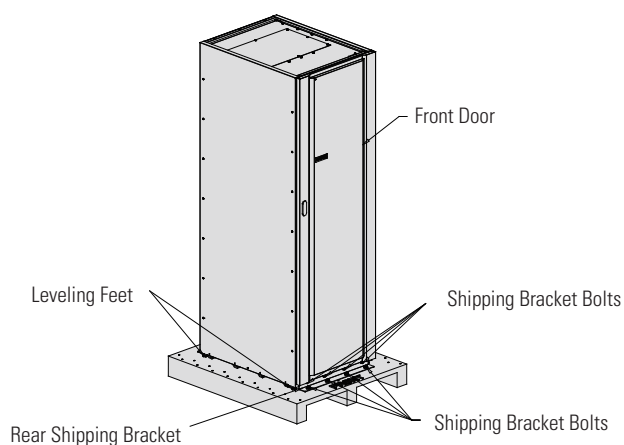
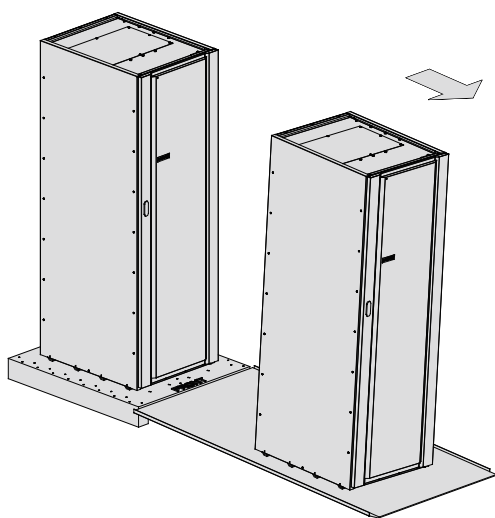

Figure 4-1. Removing the Front Shipping Bracket
Figure 4-3. Removing the Rear Shipping Bracket
2. Remove four bolts securing the front shipping bracket to the cabinet and four bolts securing the bracket to the pallet (see Figure 4-1). Remove the front shipping bracket. If installing the cabinet permanently, retain the shipping bracket and securing hardware for later use.
5. Remove four bolts securing the rear shipping bracket to the cabinet and four bolts securing the bracket to the pallet (see Figure 4-3). Remove the rear shipping bracket. If installing the cabinet permanently, retain the shipping bracket and securing hardware for later use.
11. Using the retained hardware, reinstall the shipping brackets removed in Step 2 and Step 5 to the front and rear of the UPS cabinet with the angle facing outward (see Figure 4-1 and Figure 4-3).